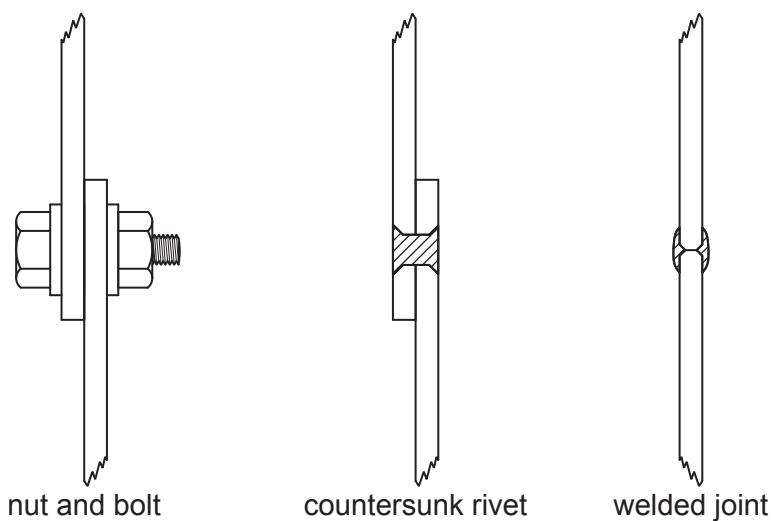

Fig. 10.4
- (d) Fig. 10.4 shows three different methods of joining metals in a structure.